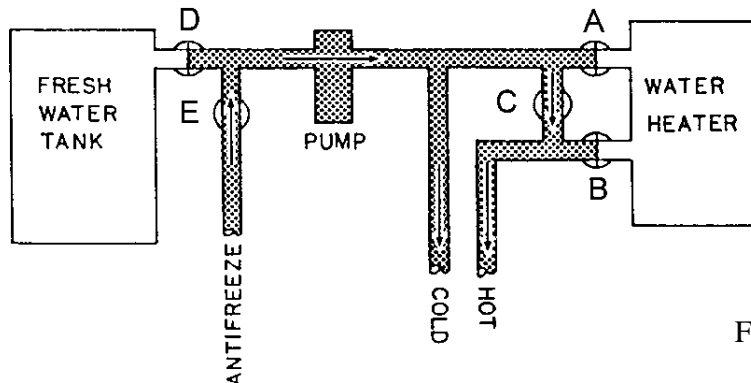

Figure 4-13
3. Close valves A, B and D. Open valves E and C. (Fig. 4-13)